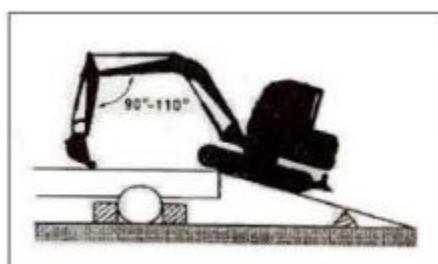

Fig 5-1
1. Make sure the trailer is parked on a solid and level surface, see Figure 5-1.